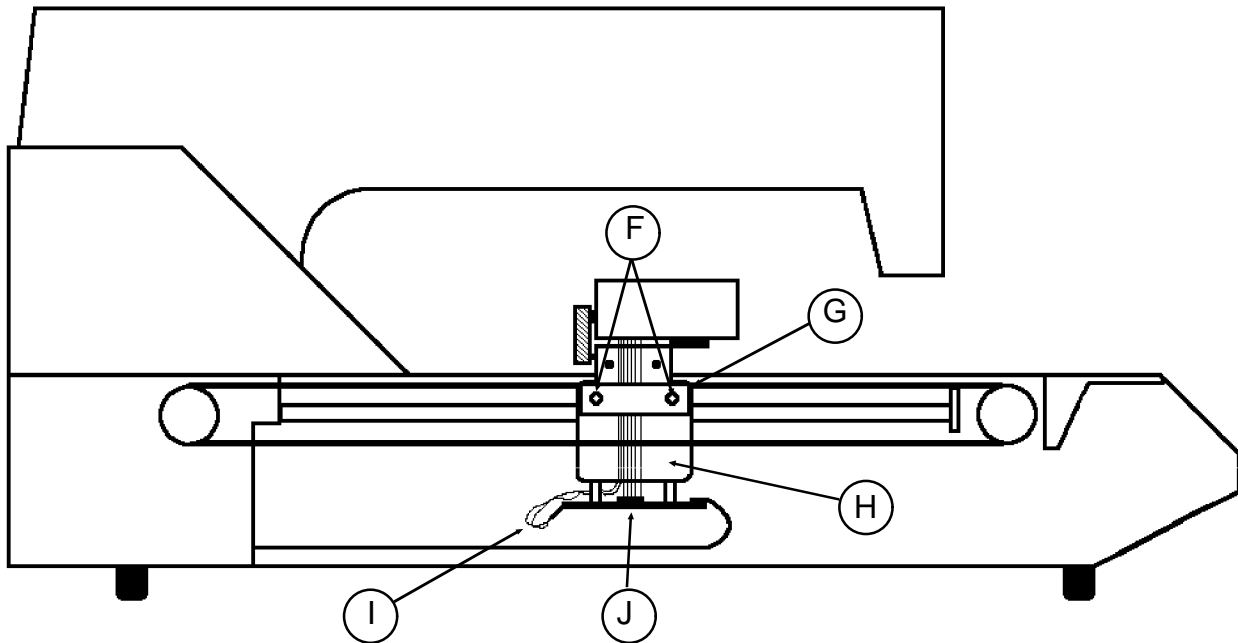

Figure 2
5. Remove the two Retaining Screws (Figure 2-F) holding the Y Drive Belt Bracket (Figure 2-G) to the Y Drive Bracket (Figure 2-H).
6. Unplug the red and black X Motor Drive Wires (Figure 2-I) from the X Motor Interface Board (Figure 2-J).